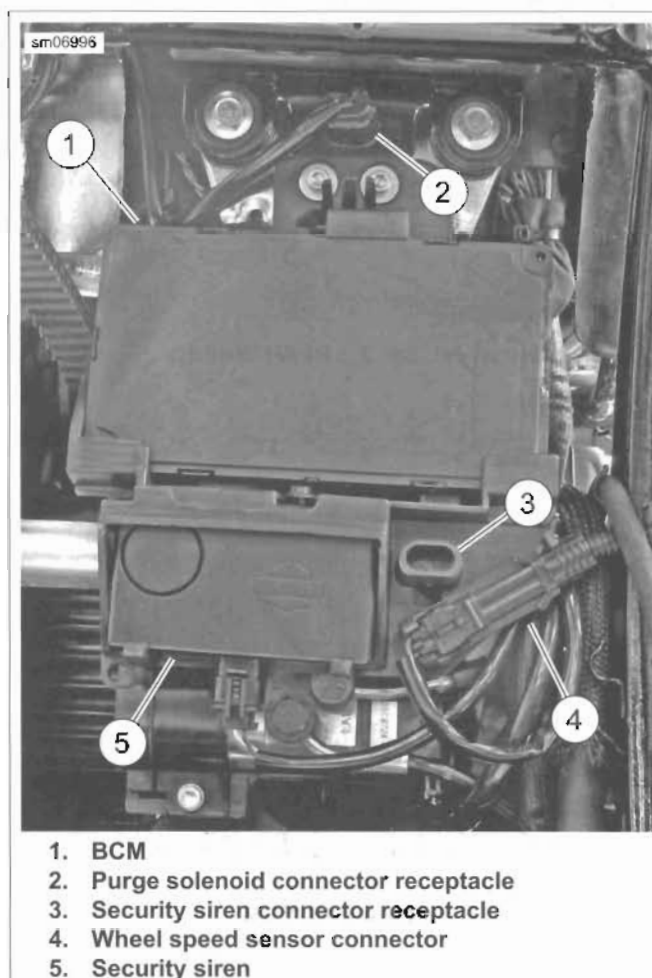

Figure 7-14. Body Control Module (BCM): All But FXSB
6. See Figure 7-14. Detach security siren (5) from electrical panel and remove electrical connector.
1. See Figure 7-14. Connect security siren connector and install security siren (5) onto electrical panel.